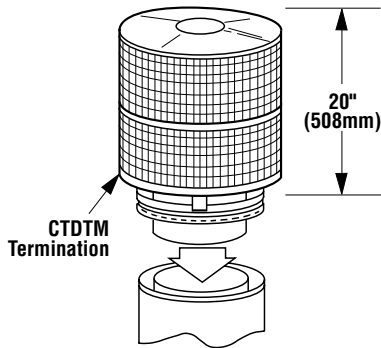

Figure 34
1. Hold the FTF10 CTDTM over the top of the last chimney section installed (Figure 34).